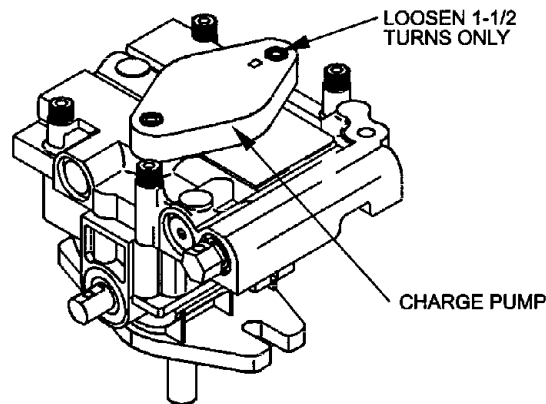

FIG. 8
- f) If either drive wheel does not rotate, one or both of the charge pumps (located on the top of the main pump as shown in Figure 8) may have lost their "prime". Refer to Section 5.1.10.
The critical area for purging air from the hydraulic system is between the oil reservoir and each charge pump located on the top of each variable displacement pump. (See Figure 8).
- d) To "prime" charge pump, loosen two hex socket head capscrews (shown in Figure 8) **1-1/2 turns only. Make sure engine is not running.** Lift charge pump housing upward and wait for a steady flow of oil to flow out from under housing. **Retighten capscrews.** Do this for both pumps. Note: Hydraulic reservoir can be pressurized to up to 5 psi to speed this process.